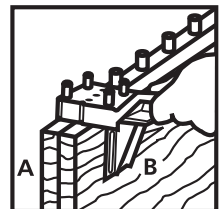

Figure 40
10. Slide the proper slot in the front of the Quick Dowel Jig over a dowel pin in board A. See Figure 40.
11. Drill a hole for each dowel pin. See Figure 40.